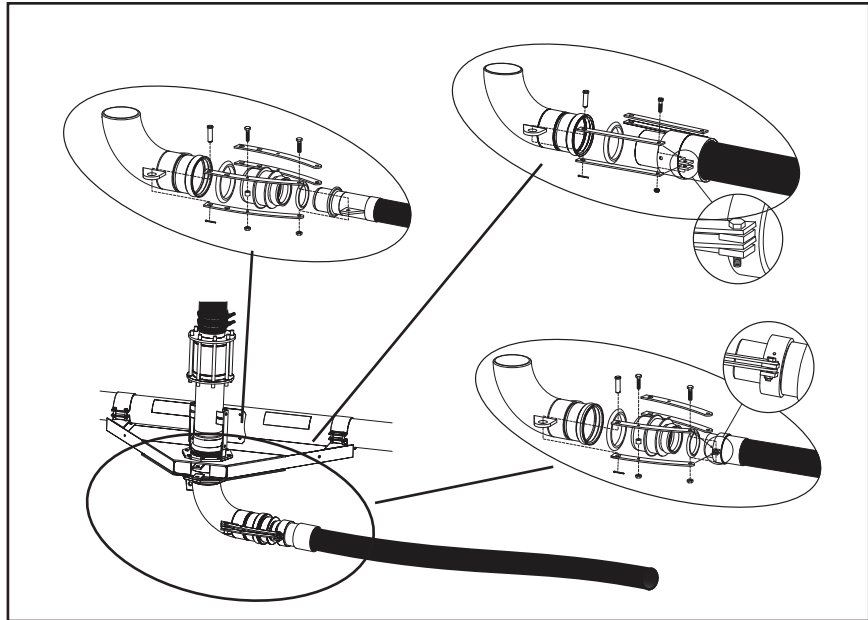

Figure 44-1 Swivel Inlet Hose Couplers
- Hose coupler design varies depending on the type and size of the hose. See figure 44-1 and 44-2.
- Swivel inlet hose couplers are secured to the inlet with pull straps. See figure 44-1.